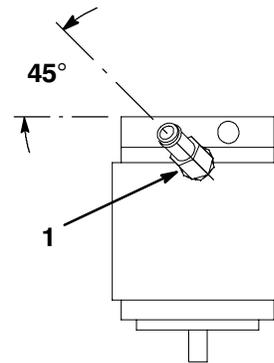

Figure 8
3. Thread a 3/4" 45° fitting into hydraulic pump and position as shown in figure 8.